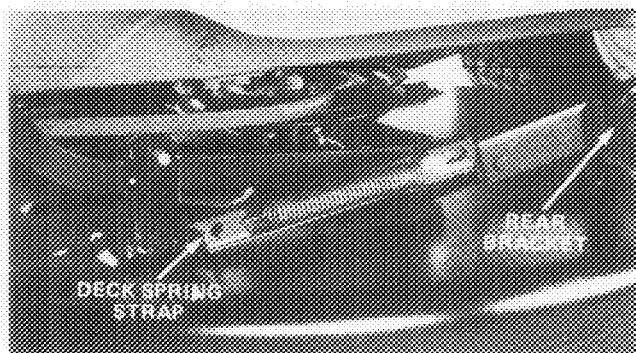

Figure 30
3. Remove hair pin cotters and flat washers from the deck spring straps and remove straps from the pins (Fig. 30).
5. Insure rear cutting unit brackets (Fig. 30) are resting on the pins and install the new belt.